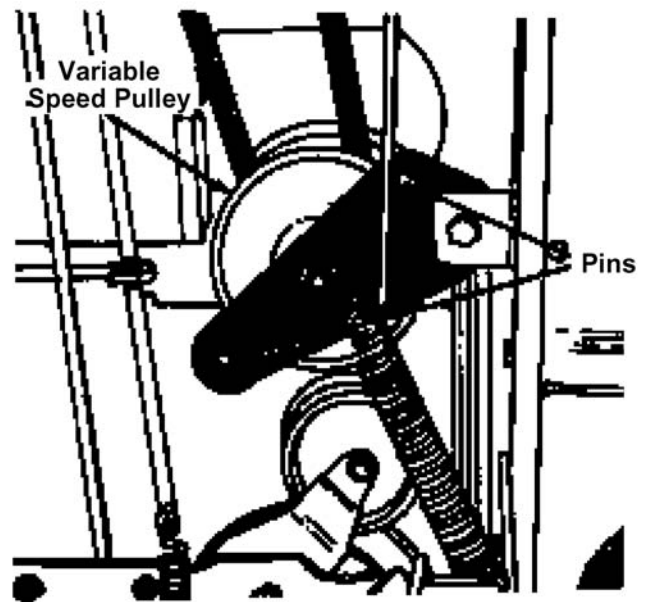

Figure 7-51. Belt Reassembly
8. Release the clutch-brake pedal. Using the pedal to move the variable speed pulley as necessary, lift the belt up and off the variable speed pulley. See Figure 7-51.